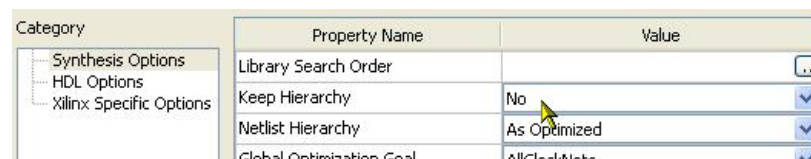

Figure 7-1: Keep Hierarchy Option
2. Set the Keep Hierarchy option to **No** as shown in Figure 7-1.